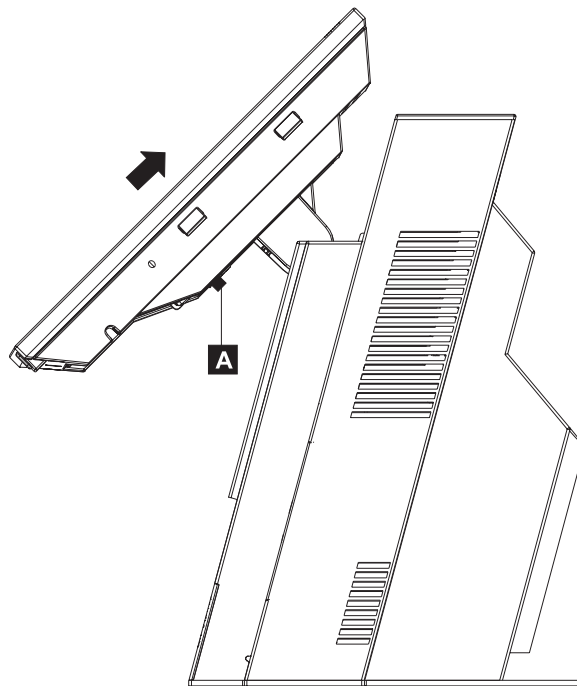
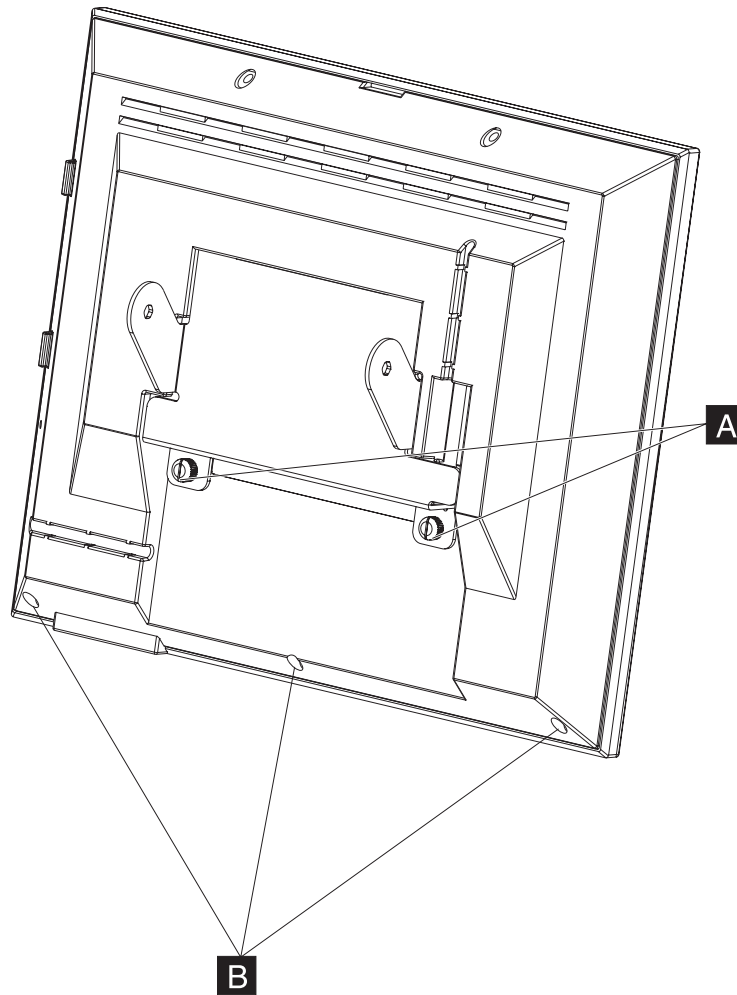

Figure 40. Display tablet, remove and replace
Figure 41. Removing the tablet back cover
Refer to Figure 40.
1. Tilt the tablet back and loosen the two thumbscrews ( **A** in Figure 40 and Figure 41 on page 56) under the tablet.
2. With the tablet face down on a sturdy surface, loosen the three screws along the bottom edge of the tablet. See **B** in Figure 41.